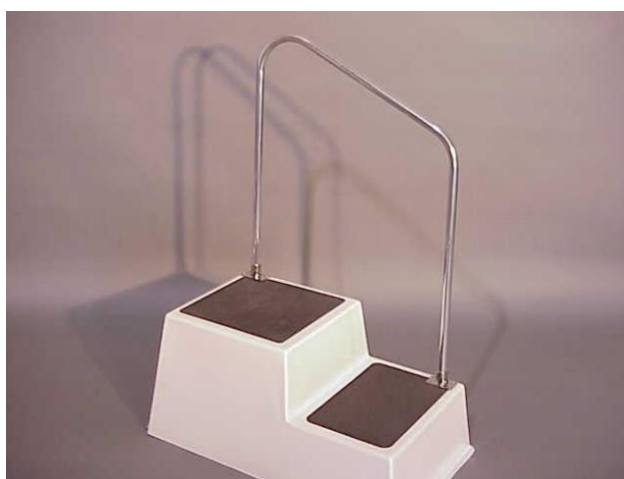

Figure 3
Step 4 - Insert Handrail into bases as shown and tighten set screws. Completely tighten all other hardware at this time. The handrail is now complete! **See Figure 3**